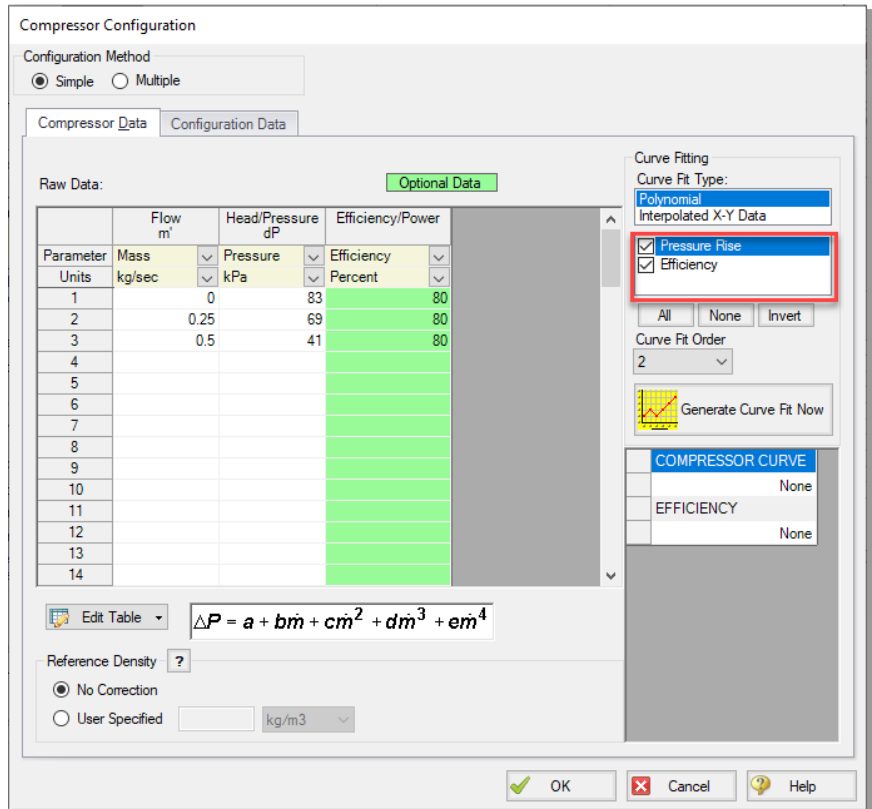
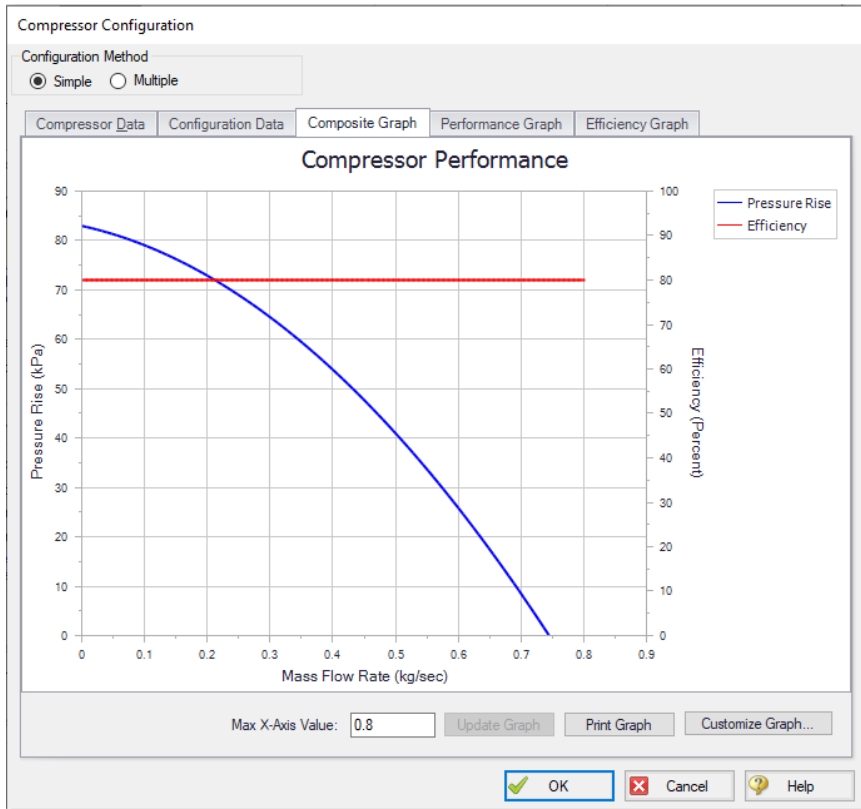

Figure 3.5 The Compressor Configuration window is where performance data is entered and fitted with a curve
Figure 3.6 Compressor Configuration window Composite Graph tab showing plots of curve fits generated from the Raw Data table
5. Select the Enter Curve Data button. Enter the Compressor Curve pressure and efficiency data from the following table into the Raw Data table in the Compressor Configuration window that is shown in Figure 3.5
6. After the curve data is entered in the Raw Data table, select the Pressure Rise and Efficiency check boxes in the curve fitting section of the Compressor Configuration window (see Figure 3.5). This will cause curve fits for both pressure and efficiency to be calculated. Then, select the Generate Curve Fit Now button to generate the Compressor Performance graph (see Figure 3.6). Select the OK button on the Compressor Configuration window to accept the Compressor curve fit and to close the window. Select the OK button to close the Compressor/Fan Properties window.